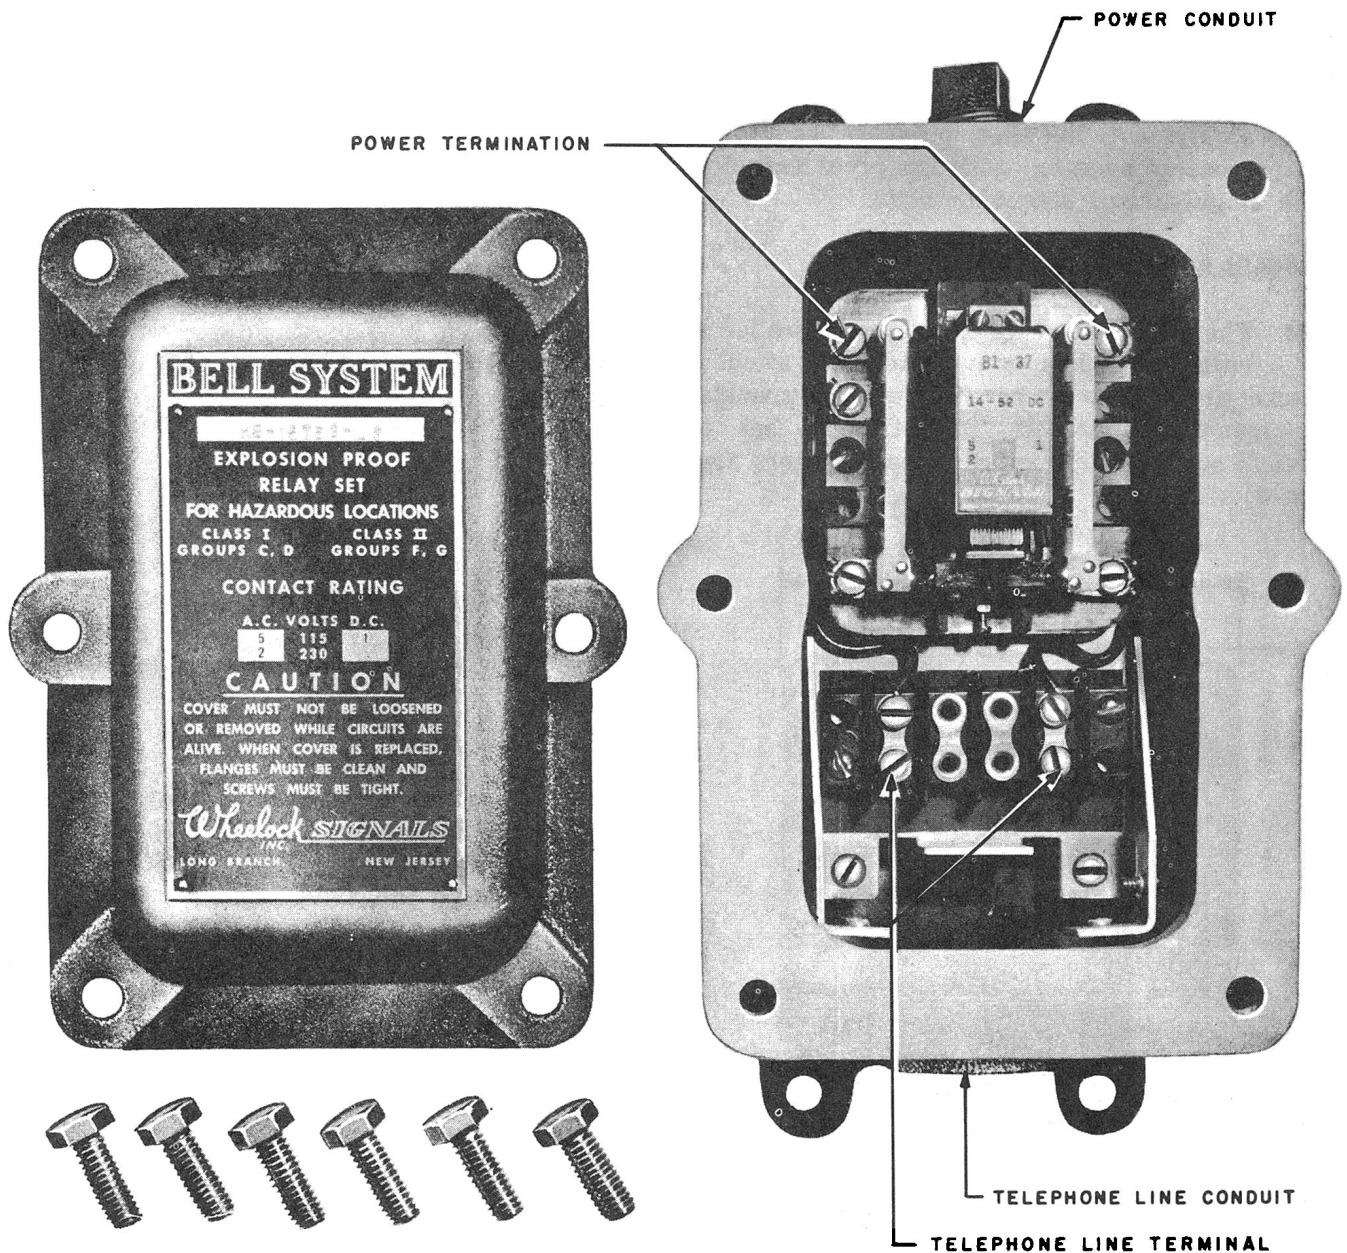

Fig. 3 — KS-16763 Relay Set
**2.10** The KS-16763 relay set (Fig. 3) is for indoor and outdoor use at hazardous locations. All the parts are enclosed in a cast aluminum housing. Two threaded openings are provided in the housing for fastening conduits. A plug is supplied with each relay set to close one of the openings when it is not in use.
**2.11** The KS-16763 relay set is available under three list numbers (see Fig. 3).